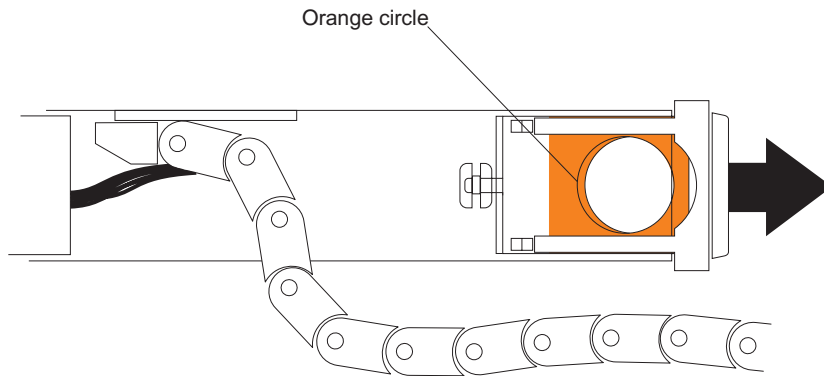

Figure 93. Horizontal mounting bracket that connects to the drive drawer
- b. Disconnect the right cable chain mounting bracket from the drive drawer. Hold the orange handle (See Figure 93), and pull the mounting bracket out of the drive enclosure.